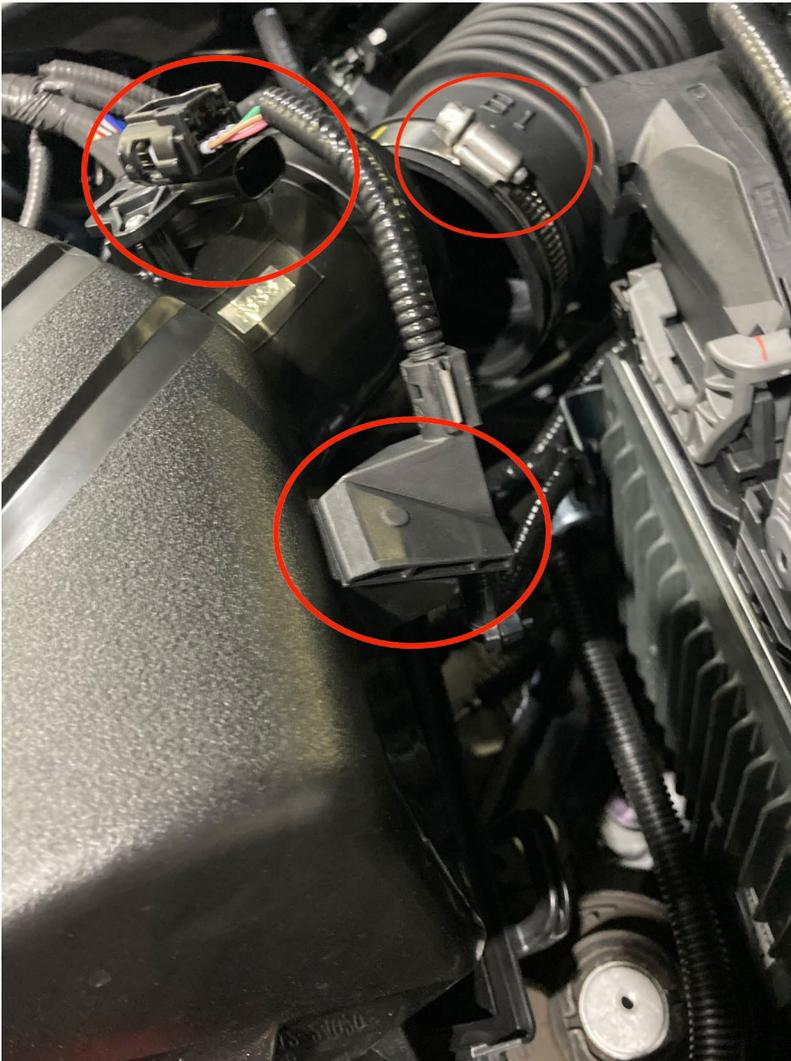

Figure 2
2. Loosen air box clamp using 10 mm socket. Unplug the MAF connector and remove the wire routing tab from air box. (Fig 2)